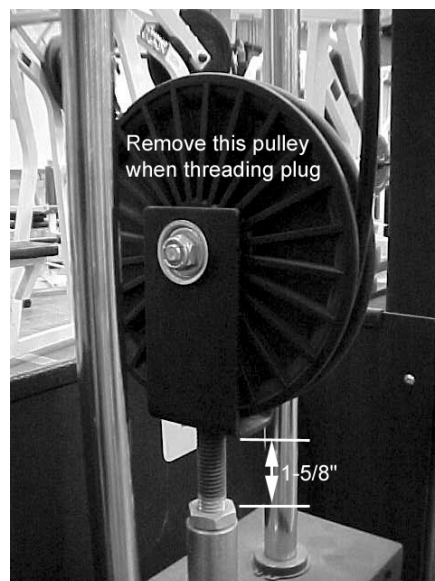

Figure 12. Bolt the floating pulley into the 190 lb weight stack (away from the tricep pushdown weight stack).
6. **Bolt the floating pulley into the 190 lb cable crossover weight stack (NOT intended for the tricep pushdown weight stack- the one with the tricep back rest mounted to the frame as shown in Figure 9) using a 7/8" combination wrench. You will need to remove the pulley from the housing to thread the plug into the weight stack bayonet. Make sure the 9/16" jam nut is threaded 1-5/8" away from the pulley as shown in Figure 12. Leave the pulleys out since you will need to have them out when the cable is routed.**